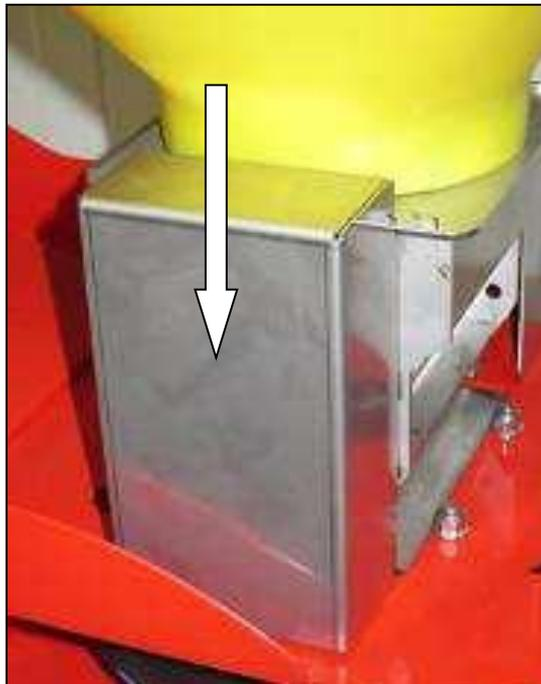

Fig.: 32
- Installing the cover hood for the drive rollers (Fig.: 32)